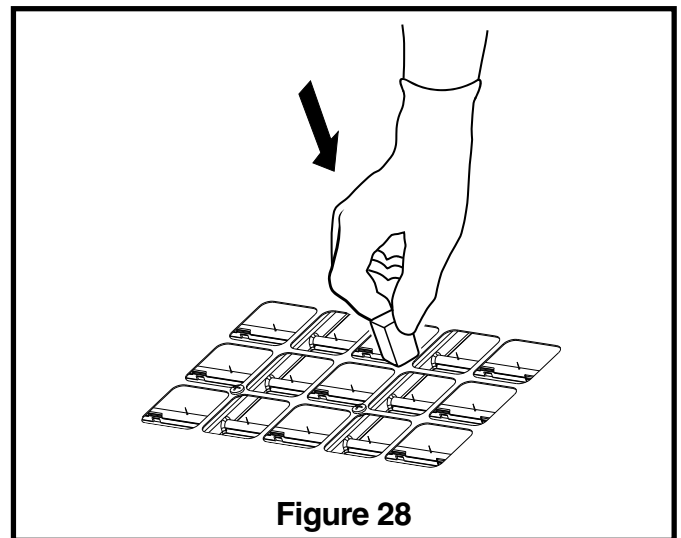

Figure 28
5. Push a block of foam down over the FIELD CHARGER Pin as in Figure 28.